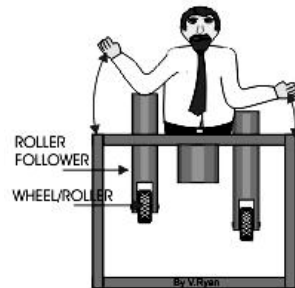

Fig. 1
6. A local toy shop has asked you to design a model to encourage parents to buy their young children mechanical toys. The partially made model is seen below Figure 1. Add a suitable cam that controls two followers so that they rise and fall